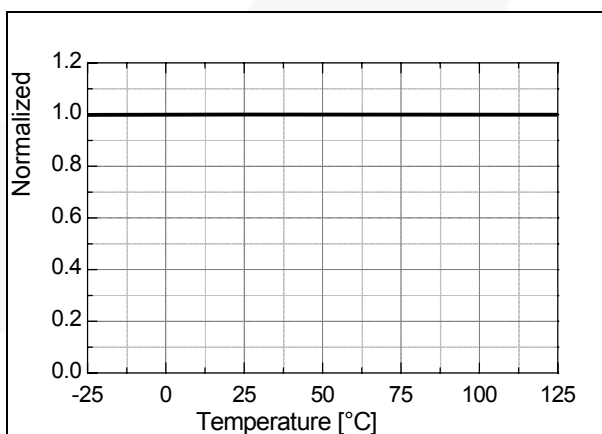

Figure 30. Sync Low Threshold Voltage 2 ( $V_{SL2}$ ) vs.  $T_A$
**4.2 Abnormal Over-Current Protection (AOCP):** When the secondary rectifier diodes or the transformer pins are shorted, a steep current with extremely high di/dt can flow through the SenseFET during the LEB time. Even though the FSQ-series has overload protection, it is not enough to protect the FSQ-series in that abnormal case, since severe current stress is imposed on the SenseFET until OLP triggers. The FSQ-series has an internal AOCP circuit shown in Figure 30. When the gate turn-on signal is applied to the power SenseFET, the AOCP block is enabled and monitors the current through the sensing resistor. The voltage across the resistor is compared with a preset AOCP level. If the sensing resistor voltage is greater than the AOCP level, the set signal is applied to the latch, resulting in the shutdown of the SMPS.